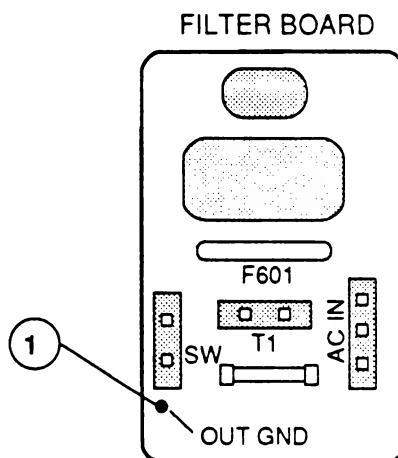
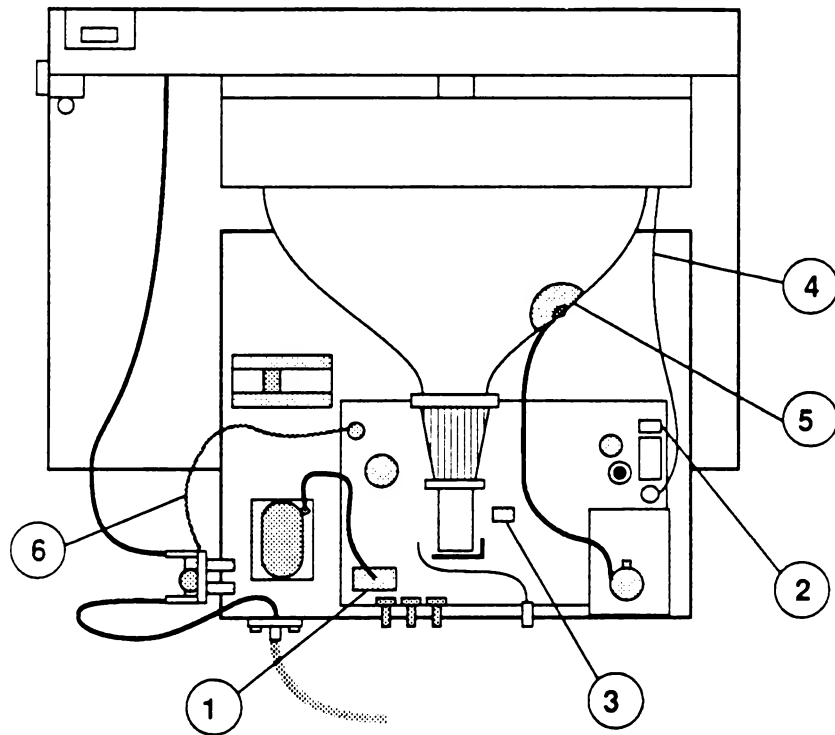

**FIGURE 12**
**FIGURE 13**
6. Locate the green ground wire (Figure 13, #6) from the main electronics assembly and solder it to the line filter board at the marking "OUT GND" (Figure 12, #1). (If you removed the line filter board from the chassis, remount it with its screw and reconnect any wires that you removed.)
7. Connect the two red leads from the transformer to connector T2 (Figure 13, #1) on the main electronics assembly.
8. Connect the brown/gray wire to the H-DY connector (Figure 13, #2) and the green/white wire to the V-DY connector (Figure 13, #3) on the main electronics assembly.
9. Replace the mounting screw that secures the main electronics assembly ground wire (Figure 13, #4) to the upper-right corner of the CRT. (Be sure to replace the antistatic shield finger plate, which is also held in place by this screw.)
11. Reconnect the anode cap to the anode of the CRT (Figure 13, #5), making sure that both metal clips are settled in securely.